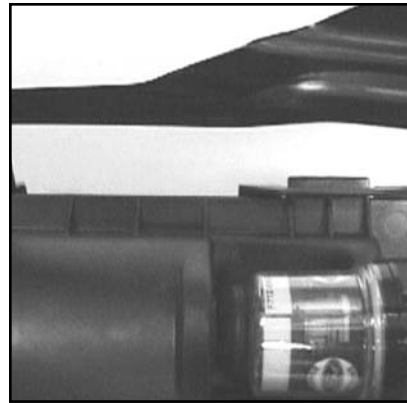

Fig. 2
5. Reinstall the airbox lid, making sure that the four tabs on the airbox lid are fully seated into the four slots on the airbox base. (Fig. 2)